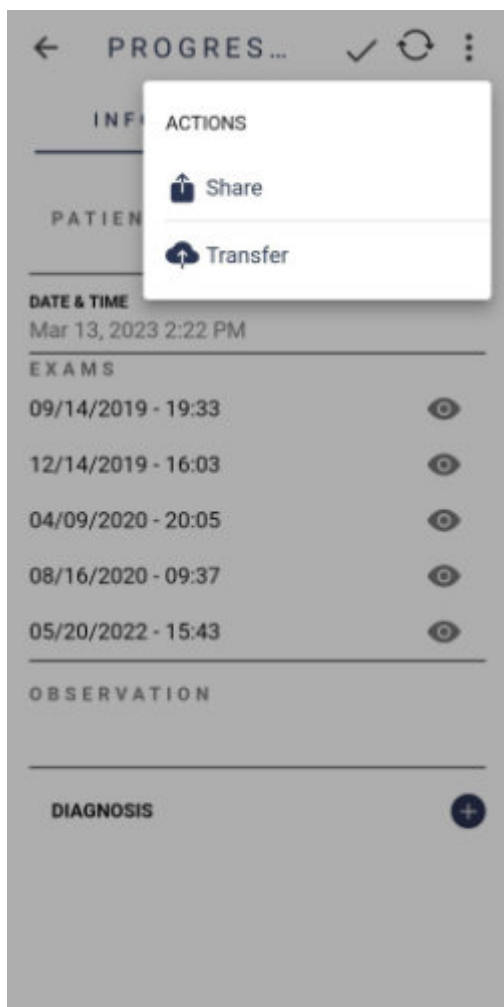

Figure 55: Sharing area.
In the exam options, Figure 54 - item 1, it is possible, in Figure 55: